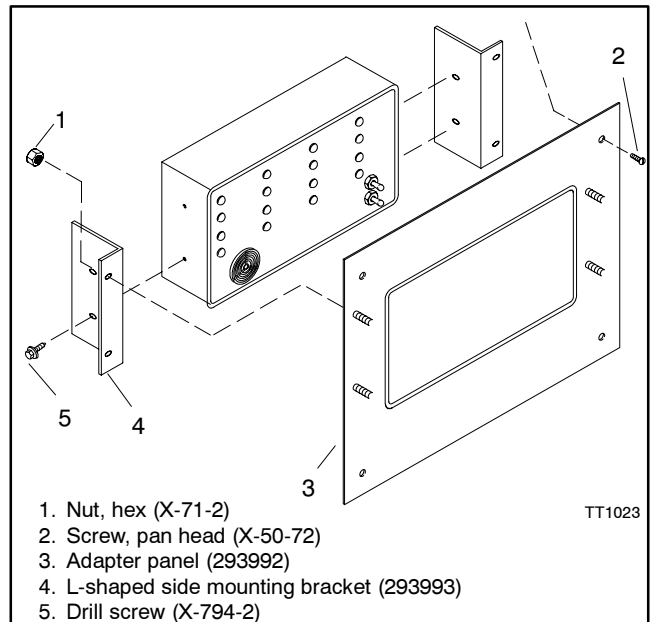

Figure 11 Flush-Mount Remote Annunciator Installation
6.3.1 Reassemble the front panel to the back panel using two drill screws (X-794-2). See Figure 11.